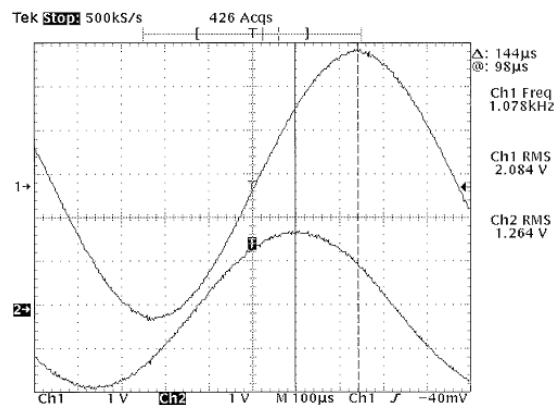

Figure 3.8
- Adjust the Time/Div control until only one or two cycles are displayed. Then position the V-bar cursors to show the time difference  $\Delta t$  between the two waveforms. **Obtain a printout** showing the following information: Ch1 frequency, RMS values of  $V_1$  &  $V_2$  and  $\Delta t$ . A typical display is shown in Figure 3.8. Enter the values shown on **your** printout into the Lab Record.